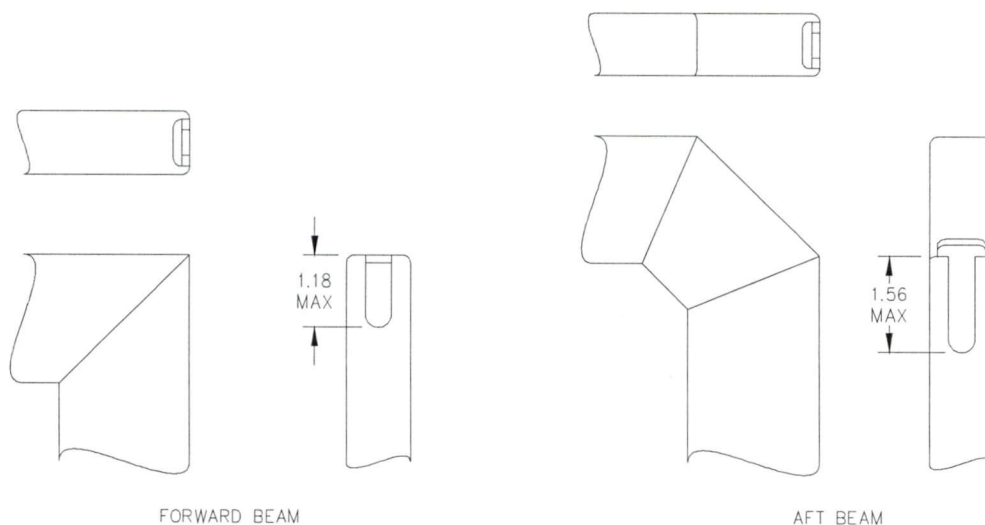

Figure 5.2 – Beam Slot Dimensions
- c) Maximum depth for slot is shown in Figure 5.2. Attempt to insert 27/64 drill shank into bottom end of slot. If drill can be inserted, slot is worn beyond limit.